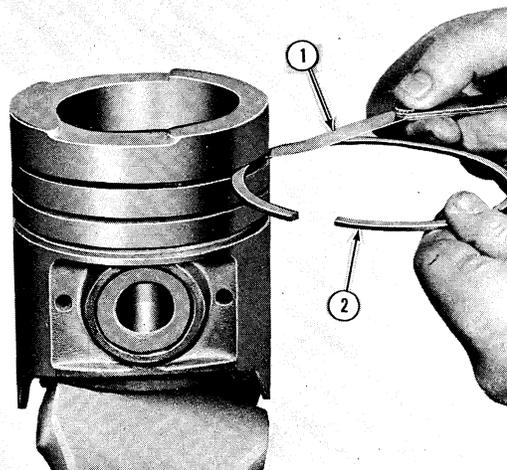
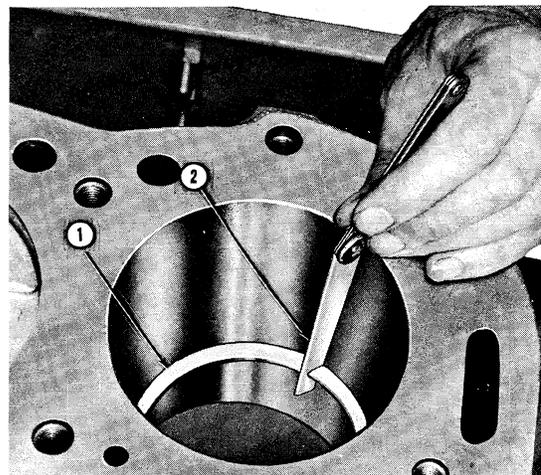

Figure 34
Figure 40
3. Check the piston ring lands for wear, using a new piston ring and feeler gauge as shown in Figure 34. See Chapter 4 for clearance specifications.
4. **PISTON RINGS:** Rings should be checked for minimum gap before fitting to the cylinder bore, Figure 40. Use a piston crown to square the ring in the bore. New rings should also be checked for side clearance in the piston, Figure 34.